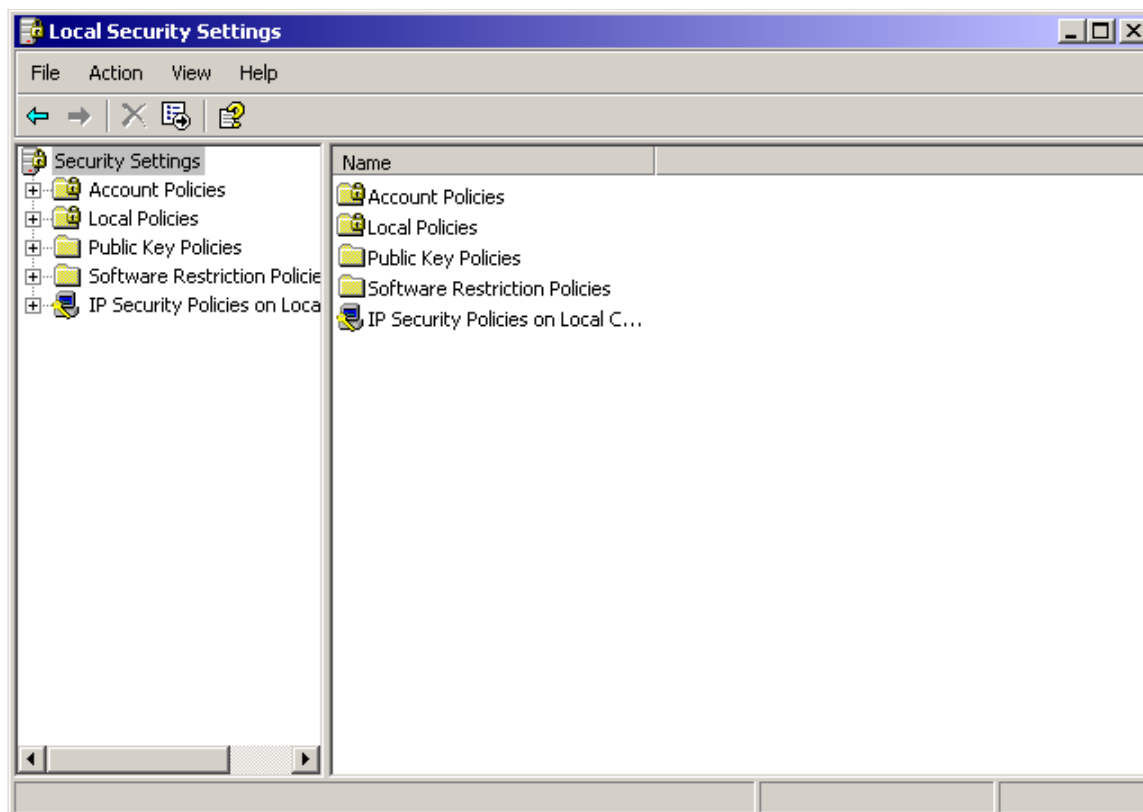

FIGURE 126. Local Security Settings window
6. The Local Security Settings window appears with the various security settings as in Figure 126.